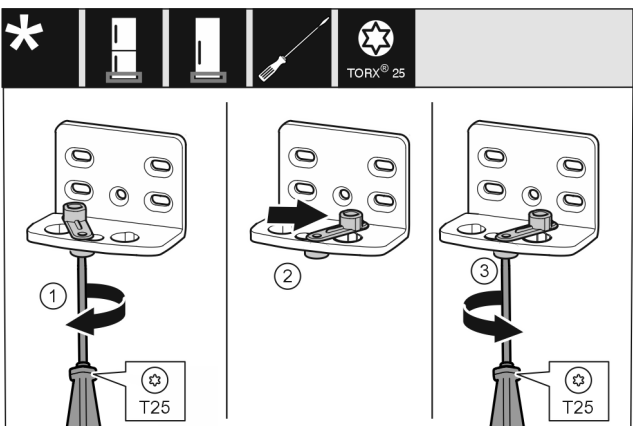

Fig. 11
- ▶ Loosen the screw using a T25 screwdriver. *Fig. 11 (1)*
- ▶ Lift the door closing aid and turn it 90° to the right in the hole. *Fig. 11 (2)*
- ▶ Tighten the screw using the T25 screwdriver. *Fig. 11 (3)*